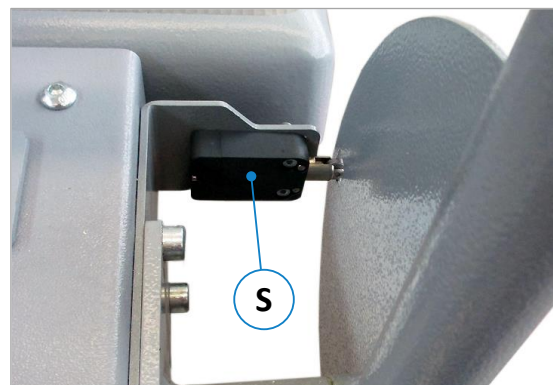

Figure 37: Emergency stop position switch
- The emergency stop situation is triggered by the emergency stop position switch (**S**), see ⇒ Figure 37.